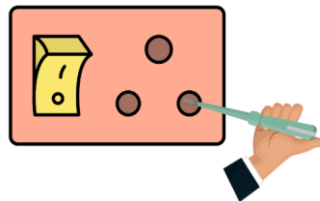

Fig. 1.52 Place the tip of the phase tester near the ports
Step 3. Place the tip of the tester into the ports of the socket. Figure 1.52 illustrate that Placing the tip of the phase tester near the ports